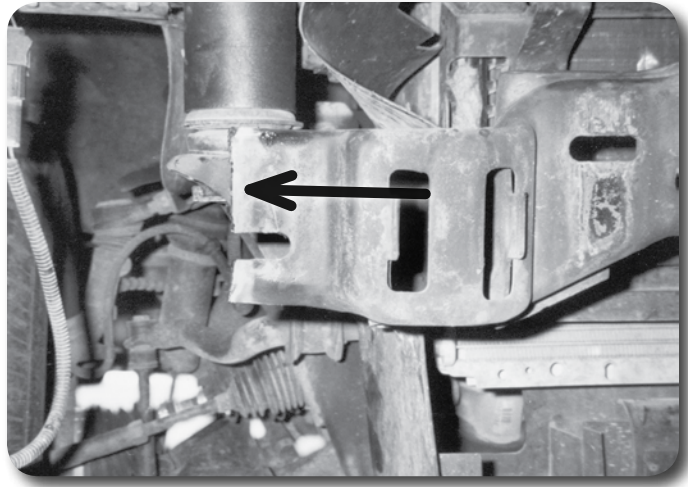

Figure 14
39. The frame must be modified to provide clearance for the fog lights (if equipped) that are mounted in the bumper. **Figure 14** shows the cut required. Remove approximately 1/3 of the outer slots.